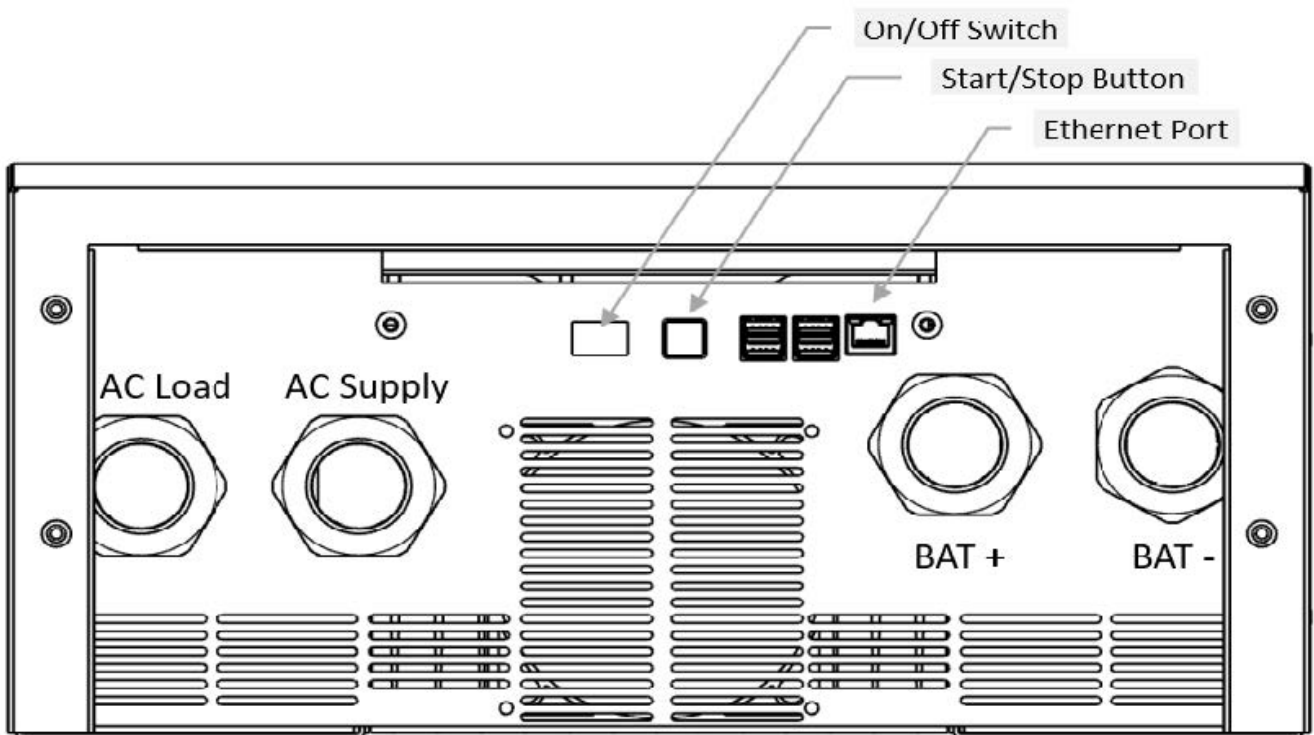

Figure 7. The AC and DC cable entries on the Powerstar 10H and the location of the On/Off switch.
Once your Powerstar 10H has been mounted on the wall, you can begin making the electrical connections. The AC and DC cables enter the machine through M40 cable glands on the underside of the inverter as shown in Figure 7 and Figure 8. Please refer to your local wiring codes to determine what size cables are needed for the installation and what protection devices are needed between the various parts of your installation.
**TIP** Leave the On/Off switch (shown in Figure 7) in the Off position while installing the DC and AC cables so that the inverter cannot be inadvertently started.
The Powerstar 10H includes an ethernet port which can be used to connect it to a LAN and the internet. The inverter’s ethernet port can be found in the center of the control card as shown in Figure 7. Use a “straight” cable between the inverter and the router.